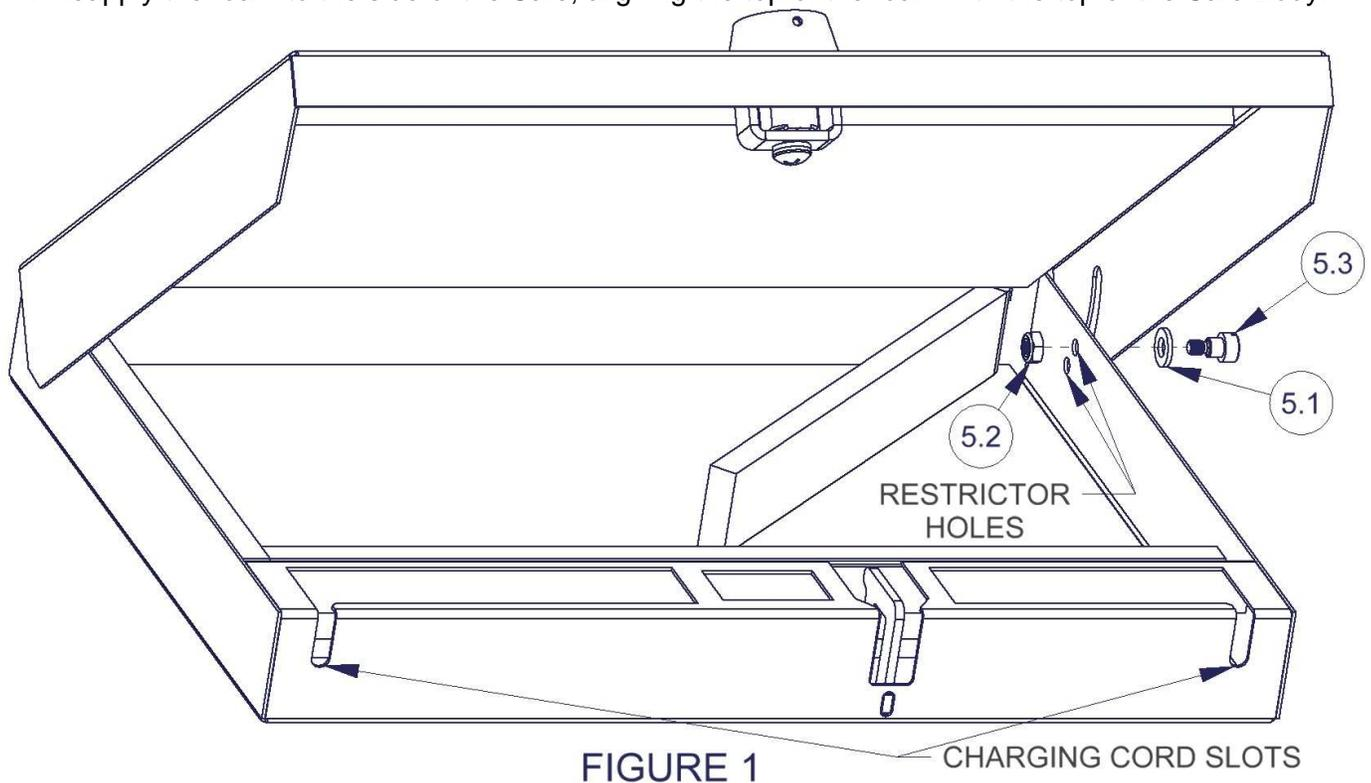

FIGURE 1
There are two slots(See Figure 1, Page 3) designed to allow a cord of up to ¼” diameter to enter the front of the safe while still maintaining the security of the enclosure.
3. Route the charging cord into the safe through either of the large openings on the sides of the lock and lanyard areas (See Figure 1), and through the space provided in Step 2.
2. Pull back the forward edge of the Right Side Foam to reveal the right rear corner (See Figure 1).